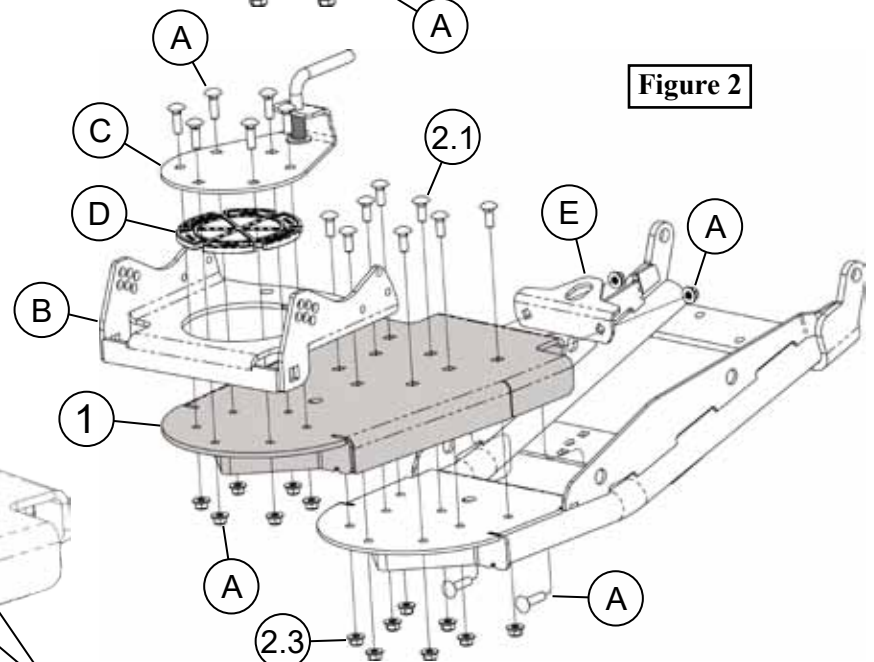

Figure 2
2. Reinstall pivot bushing (D), lift latch assembly (C), cradle (B), and cable hook bracket (E) using hardware (A) removed in step 1 onto UTV Track Extension (1) as shown in **Figure 2**.
3. Install UTV Track Extension (1) onto push tubes using bolts (2.1) and nuts (2.3) as shown in **Figure 2**. **NOTE:** If the push tube does not have rear holes, drilling is required. See **Drilling Note Below**